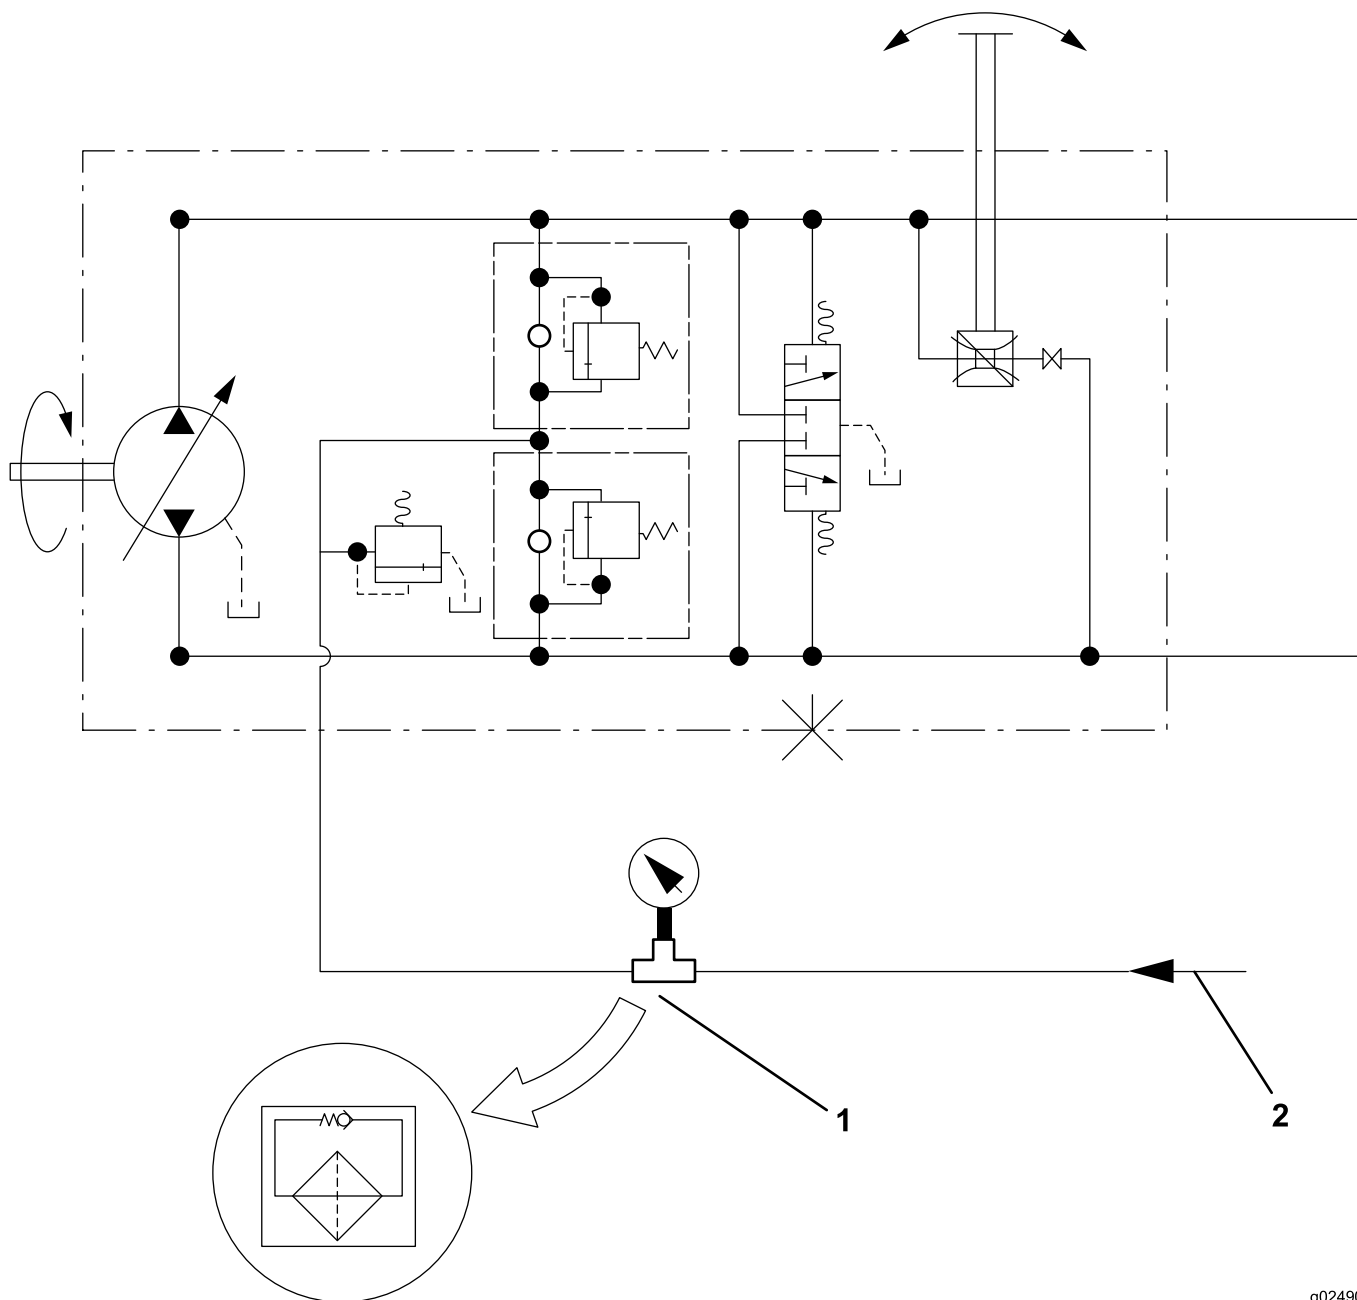

Figure 5
4. Remove the smaller charge hydraulic filter-head assembly and install a 3450 kPa (500 psi) pressure gauge in line with the charge supply tube as shown in Figure 5. If the pressure gauge is part of a flow meter assembly, ensure that the flow meter is unrestricted before performing the following tests.